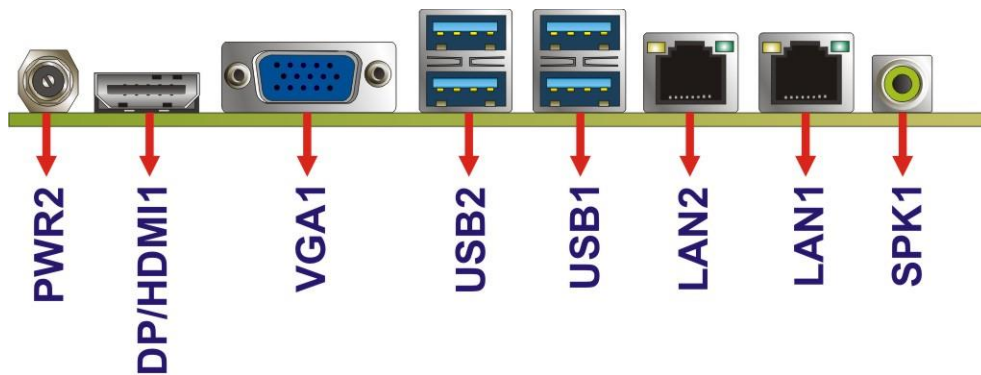

Figure 3-27: External Peripheral Interface Connector
Figure 3-27 shows the tKINO-BW external peripheral interface connector (EPIC) panel. The EPIC panel consists of the following:
CN Location: See **Figure 3-27**
CN Location:	See Figure 3-27
- CN Location:** See **Figure 3-27**